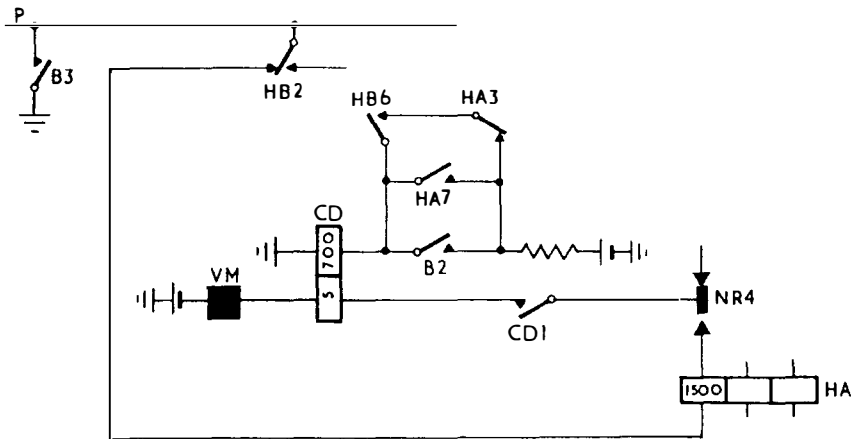

FIG. 7. ODD OUTLET FREE - RE-OPERATION OF HA.
**3.10 OUTLET TESTING-ODD FREE, EVEN BUSY.** While the selector is testing over busy contacts, relays HA and HB remain operated and the self interrupted rotary drive is maintained. When a free odd outlet is encountered, absence of earth on the P1 wiper allows relay HB to release. HB2 cuts the rotary drive circuit to prevent any further stepping. Earth from B3 via HB5 normal is extended via the P1 wiper to busy the free outlet. HB4 releases relay HA and HB6 and HA4 remove the short circuit from the 700 ohm winding of relay CD (fig. 7). Relay CD operates and at CD1 re-operates relay HA on its 1500 ohm winding. CD3 and CD6 disconnect relay A and together with contacts HA2 and HA6 extend the calling loop to the selected outlet. HA7 prepares a circuit to hold relay CD after B2 restores. A1 contact short circuits relay B which releases slowly. During the slow release of relay B, the seized circuit returns an earth on the private to hold relay HA. For the remainder of the call, relay HA remains operated on its 1500 ohm winding and contact HA7 holds relay CD operated on its 700 ohm winding.